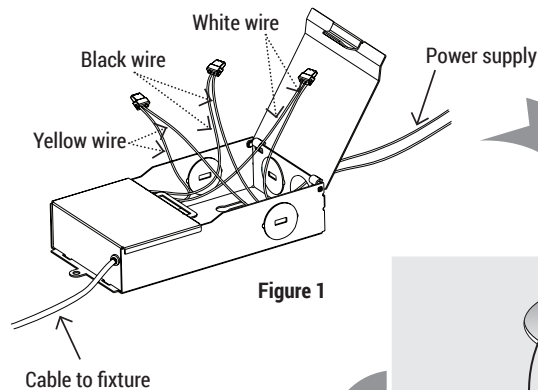

Figure 1
3. Using wire nuts, connect green ground wire of cable to green wire on box. Connect white wire of cable to white wire of box. Connect black wire of cable to black wire of box. (Figure 1)